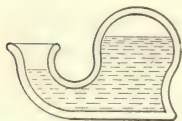
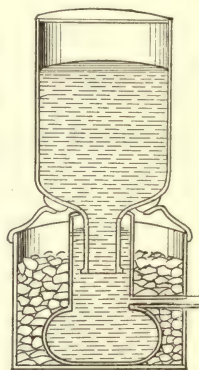
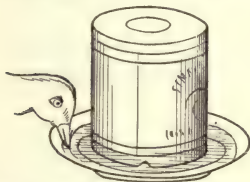

FIG. 107. — Inkwell.
FIG. 108. — Drinking fountain.
FIG. 109. — Poultry fountain.
14. Explain the action of a so-called “pneumatic” inkstand (Fig. 107), or of a drinking fountain (Fig. 108), or of a poultry fountain (Fig. 109).